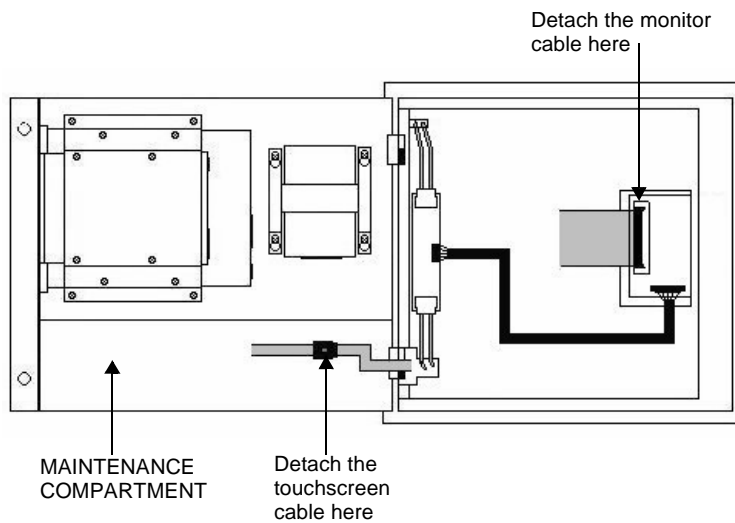

Figure 2: Disconnecting PC9 Cables
6. If you have a PC9, disconnect the two cables connecting the faceplate assembly and backshell, as shown in Figure 2. Then go to step 8.